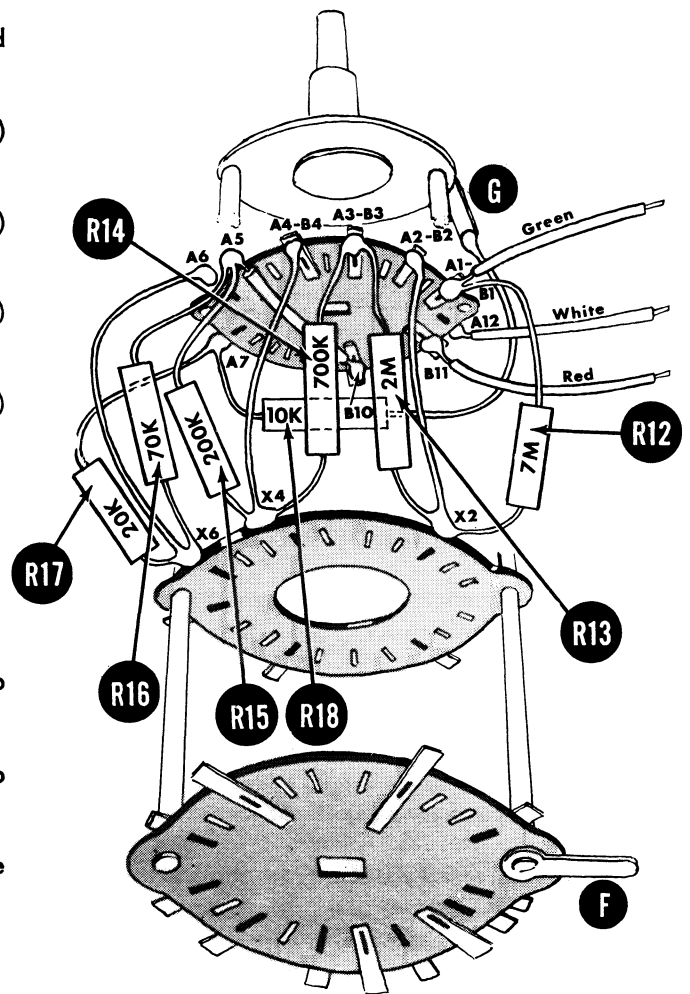
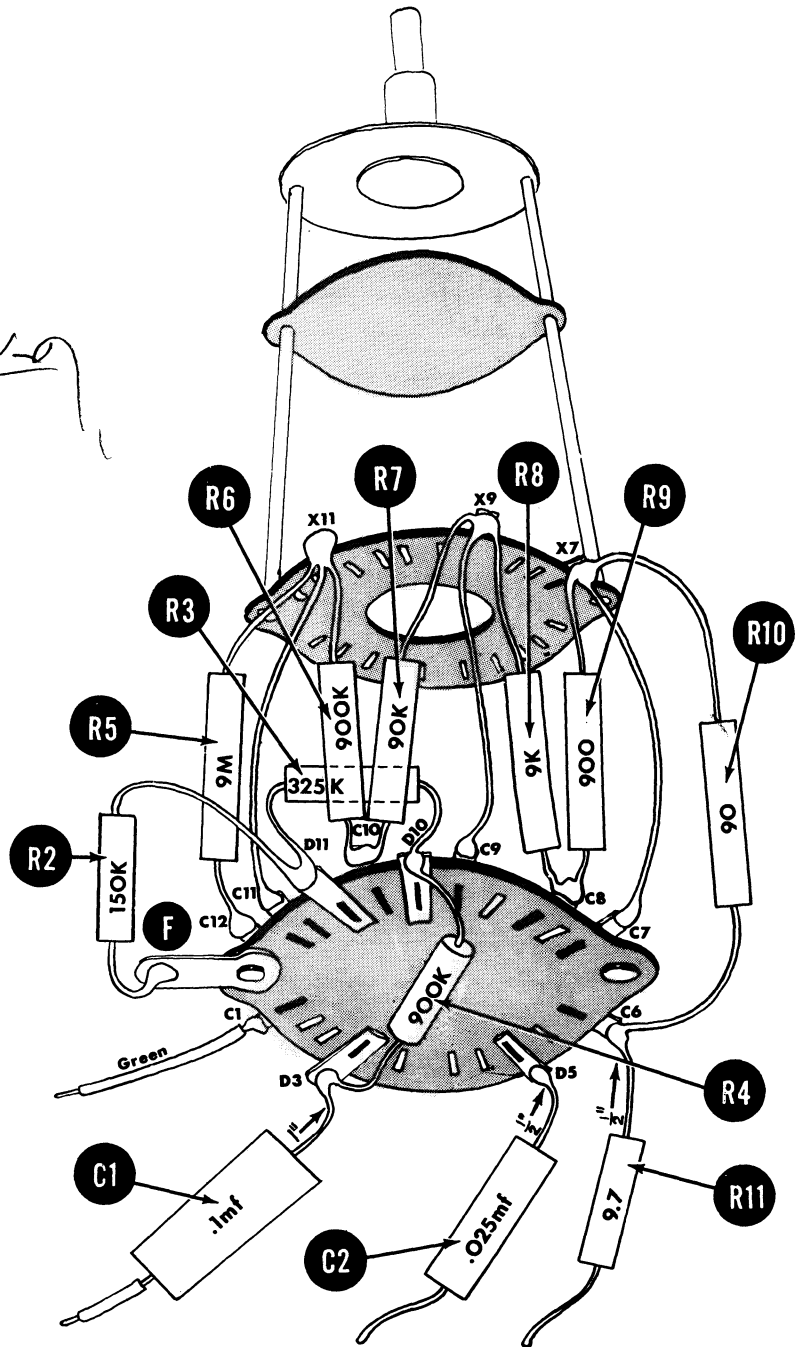

Fig. 4
Fig. 5
IMPORTANT: Before prewiring S2, see Fig. 4 and note the position of lug "F" on the rear wafer in relation to how the switch is being viewed in the drawing. This should enable you to correctly identify the contacts on the actual switch that correspond to the contacts shown in Fig. 4.
- (✓) Fig. 4. Connect a length of hook-up wire from A5 (C) to B10 (S). The A side of the wafer is closest to the detent mechanism.
- (✓) Fig. 4. Connect a length of bare wire from A6 (S) to X6 (C). The X designation will be used for the switch wafer containing the dummy lugs.
- (✓) Fig. 4. Connect a length of bare wire from A4-B4 (S) to X4 (C). When the double designation A4-B4 is used, it means the two switch lugs are electrically connected together by the rivet holding them to the wafer.
- (✓) Fig. 4. Connect a length of bare wire from A2-B2 (S) to X2 (C).
- (✓) Fig. 4. Connect the 10 KΩ resistor R18 from ground lug "G" (S) to A7 (C).
- (✓) Fig. 4. Connect the 20 KΩ resistor R17 from A7 (S) to X6 (C).
- (✓) Fig. 4. Connect the 70 KΩ resistor R16 from X6 (S) to A5 (C).
- (✓) Fig. 4. Connect the 200 KΩ resistor R15 from A5 (S) to X4 (C).
- (✓) Fig. 4. Connect the 700 KΩ resistor R14 from X4 (S) to A3-B3 (C).
- (✓) Fig. 4. Connect the 2 MΩ resistor R13 from A3-B3 (S) to X2 (C).
- (✓) Fig. 4. Connect the 7 MΩ resistor R12 from X2 (S) to A1-B1 (C).
- (✓) Fig. 4. Connect a 5 in. length of green hook-up wire to A1-B1 (S).
- (✓) Fig. 4. Connect a 4 in. length of white hook-up wire to A12 (S).
- (✓) Fig. 4. Connect a 6 in. length of red hook-up wire to B11 (S).
(M) Fig. 5. Note that in Fig. 5 the switch is being viewed from the side that faced away from the observer in Fig. 4. Again note the position of lug "F" on the rear wafer in relation to how the switch is being viewed in the drawing. This should enable you to correctly identify the contacts on the actual switch that correspond to the contacts shown in Fig. 5.
(N) Fig. 5. Connect a length of bare wire from C11 (S) to X11 (C).
(O) Fig. 5. Connect a length of bare wire from C9 (S) to X9 (C).
(P) Fig. 5. Connect a length of bare wire from C7 (S) to X7 (C).
(Q) Fig. 5. Connect the 9 MΩ resistor R5 from C12 (S) to X11 (C).
(R) Fig. 5. Connect the 900 KΩ (1/2 watt) resistor R6 from X11 (S) to C10 (C).
(S) Fig. 5. Connect the 90 KΩ resistor R7 from C10 (S) to X9 (C).
(T) Fig. 5. Connect the 9 KΩ resistor R8 from X9 (S) to C8 (C).
(U) Fig. 5. Connect the 900 Ω resistor R9 from C8 (S) to X7 (C).
(V) Fig. 5. Connect the 90 Ω resistor R10 from X7 (S) to C6 (C).
(W) Fig. 5. Connect the 9.7 Ω resistor R11 to C6 (S).
(X) Fig. 5. Connect the 150 KΩ resistor R2 from gnd lug F (S) to D11 (C).
(Y) Fig. 5. Connect the 325 KΩ resistor R3 from D11 (S) to D10 (C).
(Z) Fig. 5. Connect the 900 KΩ (1 watt) resistor R4 from D10 (S) to D3 (C).
(AA) Fig. 5. Connect the .1 mf capacitor C1 to D3 (S).